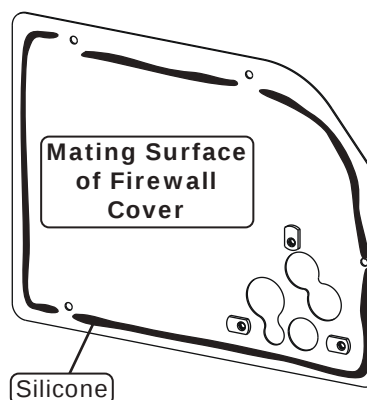

Figure 1
4. Apply a bead of silicone to the mating surface of the firewall and firewall cover (See Figure 1, below).
5. Route the #10 and #6 A/C hoses through the firewall cover. Install the firewall cover over the (3) 1/4-20 full-threaded studs (See Photo 4, below). **NOTE: Temporarily remove the service port cap on the #10 A/C hose to route through the firewall cover. Reinstall the cap after installation to avoid contaminants.**